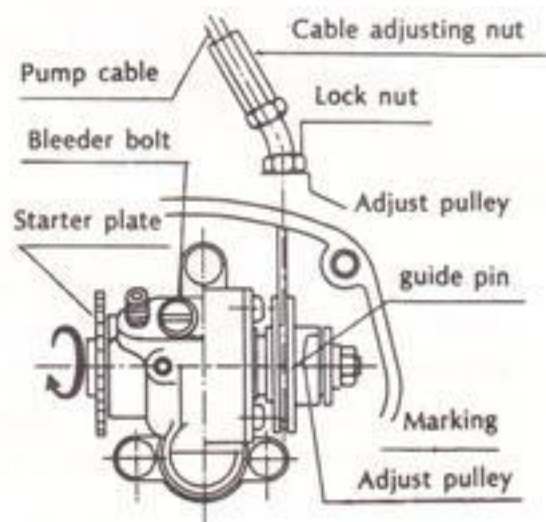

Fig 2-3-7
- 1) Adjust the pump cable so that the marking (arrow) on the Autolube pump adjustment pulley is aligned with the guide pin (see Figs. 2-3-7 & 8.)
Begin by fully closing the accelerator grip, then slowly turning it back again so that the slack in the throttle cable is completely taken up. Next, adjust the pump cable so that the marking on the pump adjustment pulley will be aligned with the guide pin, as shown in Fig. 2-3-7. The point of adjustment is at the end of the cable, just before it enters the case. Loosen the lock nut screw the the adjustor in or out, whichever direction is necessary to obtain the correct adjustment.